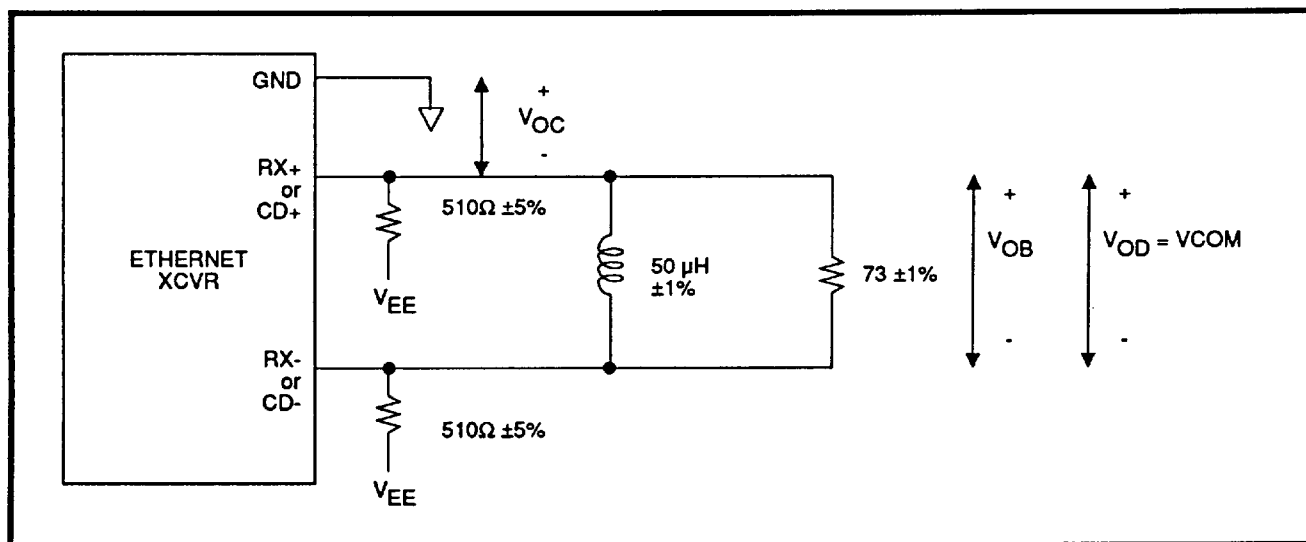

FIGURE 2: Test Load for $CD\pm$ or $RX\pm$
7. Test load as shown in Figure 2.